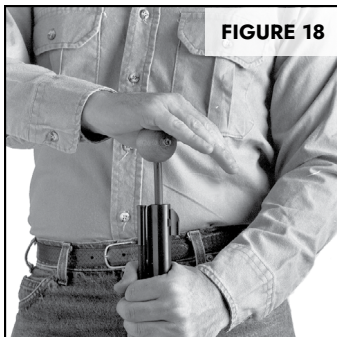

FIGURE 18
- Hold the rifle as pictured on page 24 and pour your measured powder charge into the barrel. Start the lubricated bullet or Sabot into the bore with your fingers. The base of the projectile will enter the bore easily with finger pressure. Drive the projectile down about four inches into the barrel with the rod end of the bullet starter (FIGURE 18). Using the ramrod, push the projectile the remainder of the way down the barrel until it contacts the powder charge. The Sabot or conical bullet must be seated firmly against the powder charge. Seat the projectile with exactly the same pressure shot after shot to aid in accuracy.